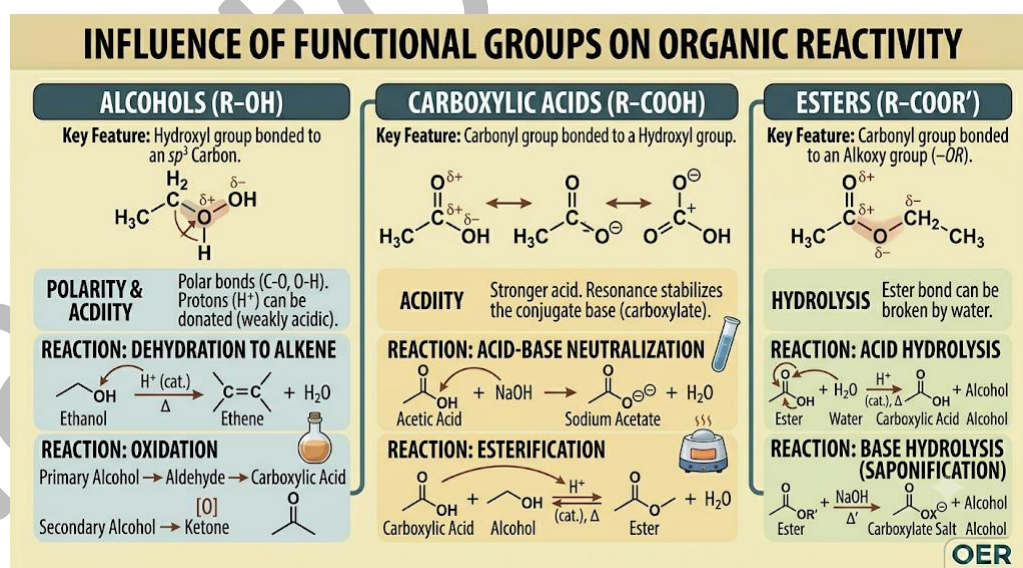

Figure 3.5 Functional groups and their influence on reactivity.
- Figure 3.5 Functional groups and reactivity (OER diagram).